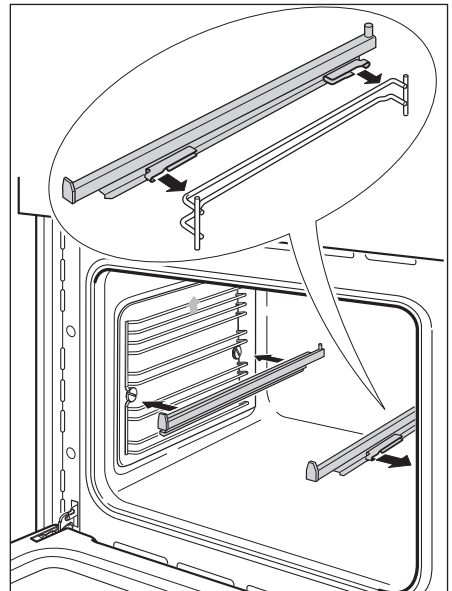

Fig.43 Refitting the sliding shelf supports
- 2 Fit the sliding shelf support onto the top wire of a rack and press (Fig. 43). You will hear a click as the safety locks clip over the wire.
- *the slides so that they run out towards the oven door, as shown in Fig. 43.*